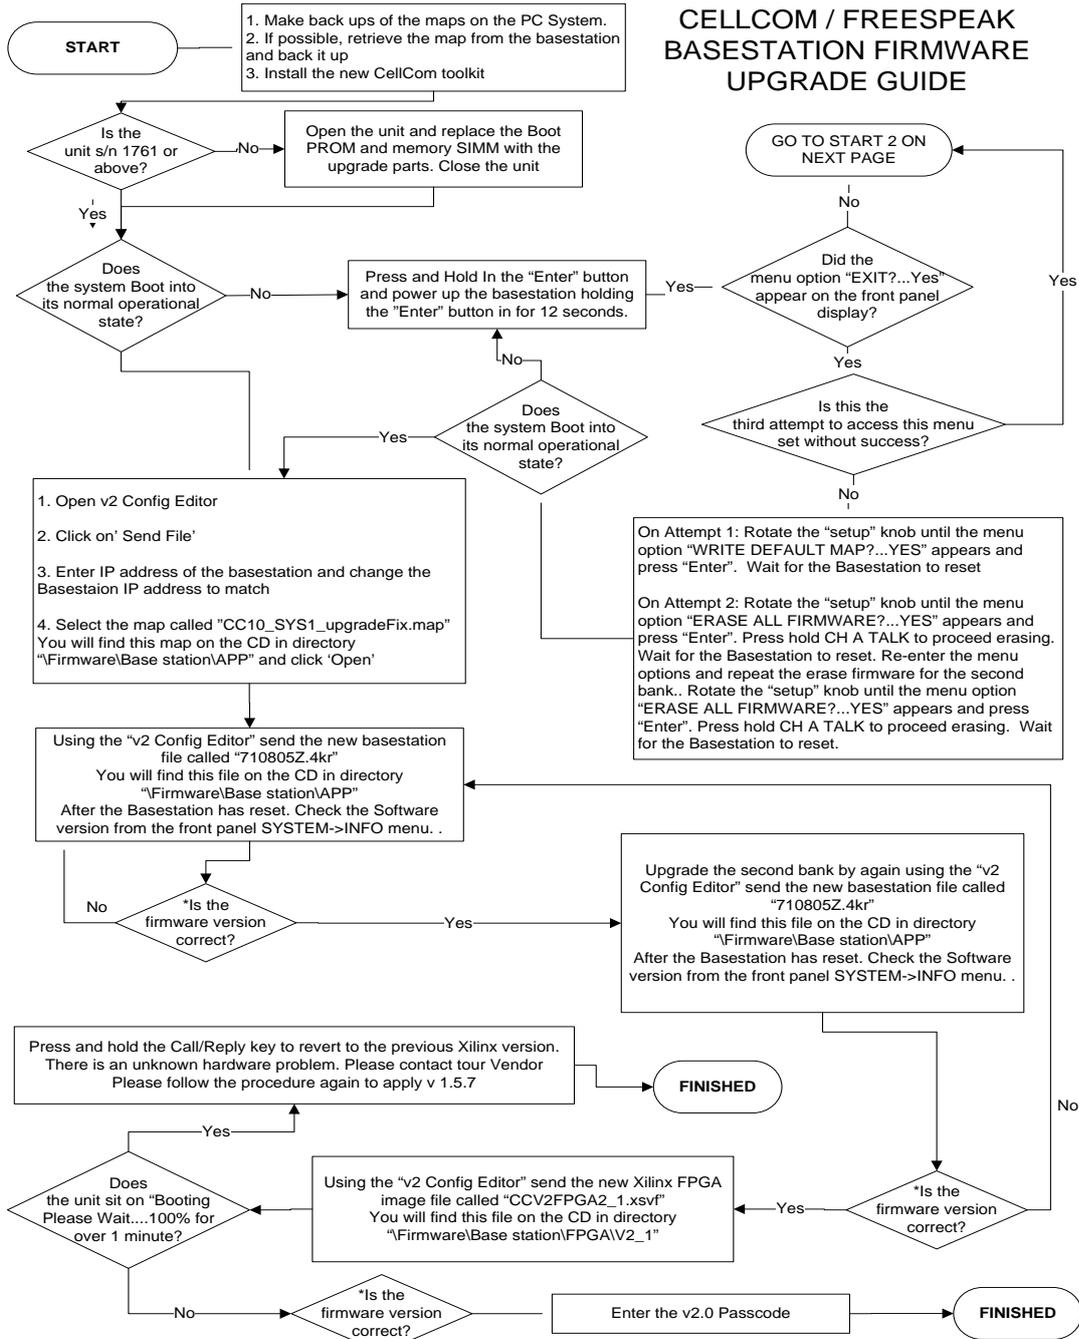

Figure 5: CellCom / FreeSpeak basestation upgrade procedure (flow diagram)
- ***Figure 5: CellCom / FreeSpeak basestation upgrade procedure (flow diagram)***